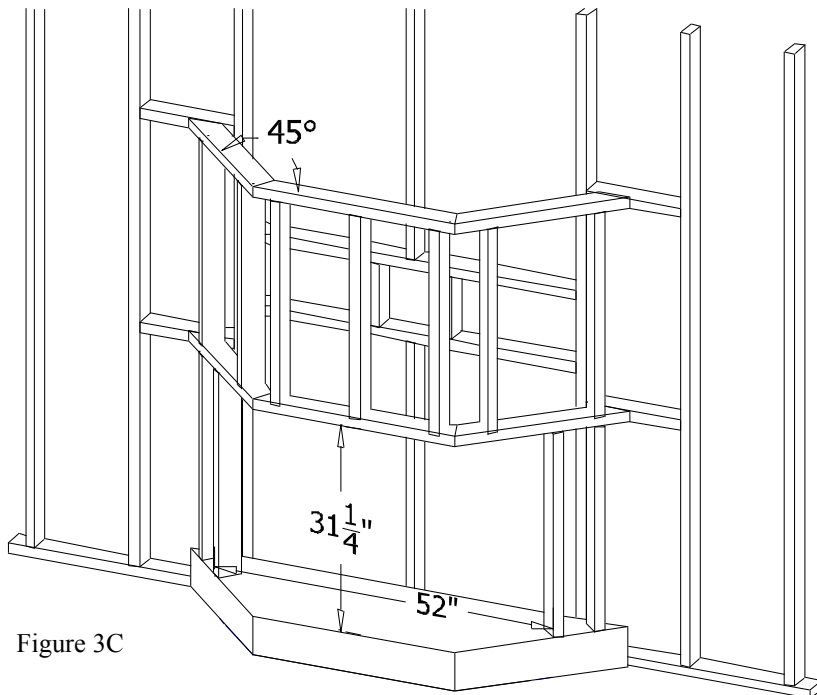

Figure 3C
**11. Rough in the wall enclosure (Figure 3C).** Minimum rough opening dimensions are 52" w x 31 1/4" h. Depth is determined by your specific application. Build the hearth, if used, to the desired size and height.